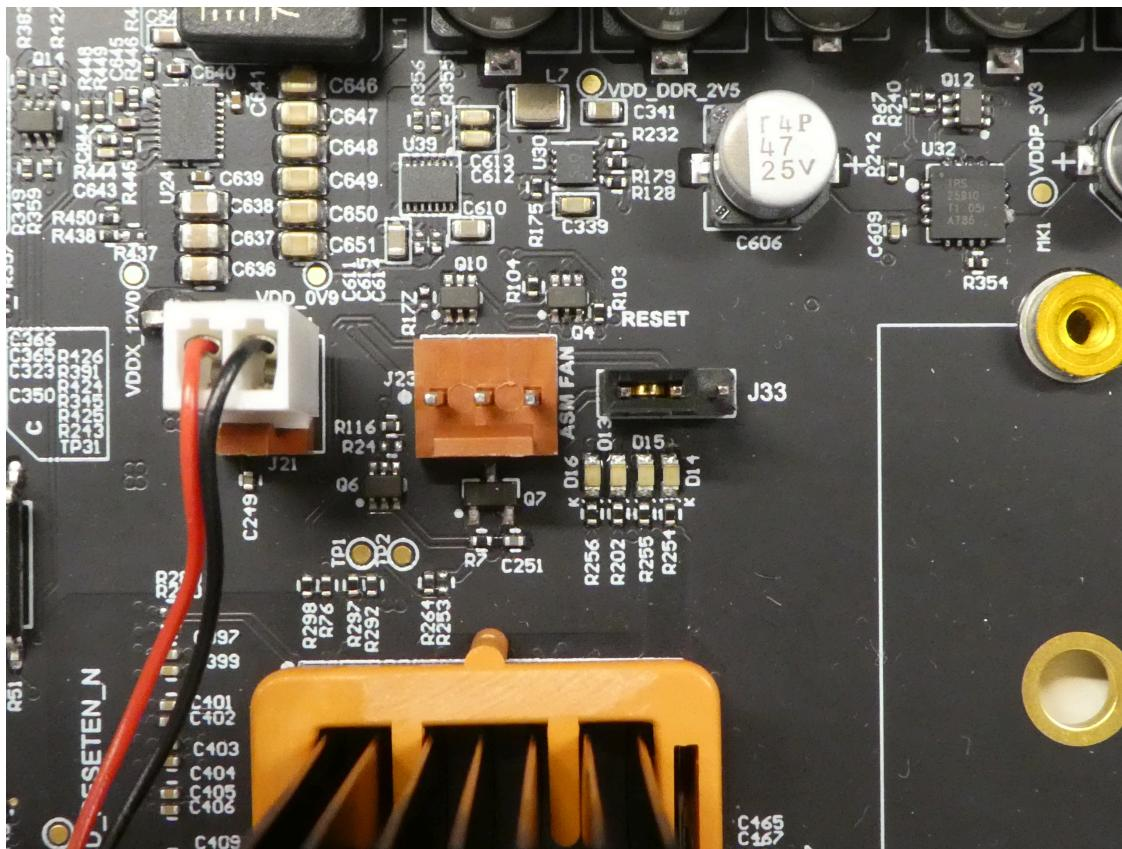

Figure 10: Additional Chassis Fan Connector
4. If an additional connection for the chassis fan is required, a 3-Pin connector located next to the CPU Fan connector can be used as shown in Figure 10 below and a jumper should be placed between pins 1 and 2 of the three pin header J33 located right next to it.